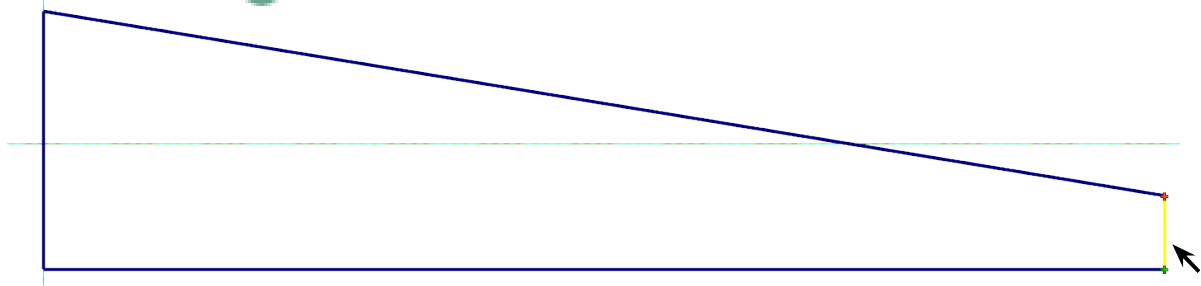
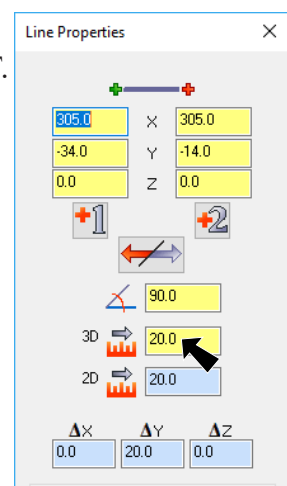

Fig. 9
Fig. 10
Step 11. Sketch line **between endpoints, Fig 9.**
**Tip:** Use **Analyze (F4 key)** to confirm a length, **Fig 10.** To use, press **F4** and click a line, **Fig 9.** Set units to mm. You can also change properties such as length in the Analyze function dialog box (2D Construction Mode only).